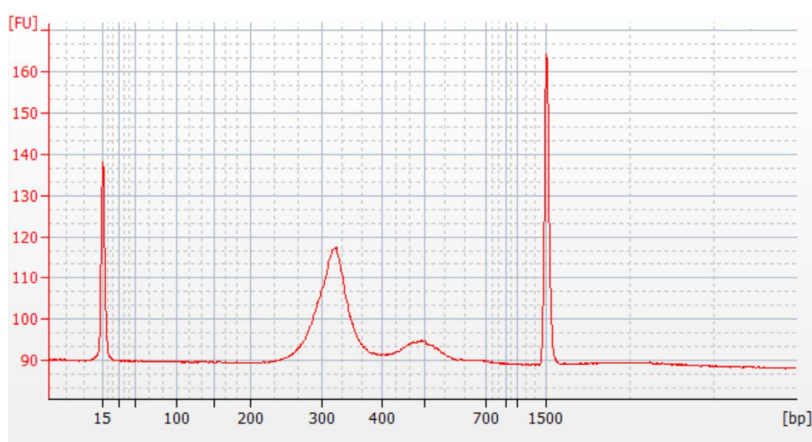

Figure 2. Example of plasma cfDNA captured library size distribution on Agilent 2100 Bioanalyzer
2.7.2 Library fragment size QC (Optional): Assess the library quality with a recommended capillary electrophoresis analyzer and associated kit. The peak size of the library fragment should be at 300~350 bp for plasma cfDNA library, without obvious peaks of small and big fragments, as shown in Figure 2.